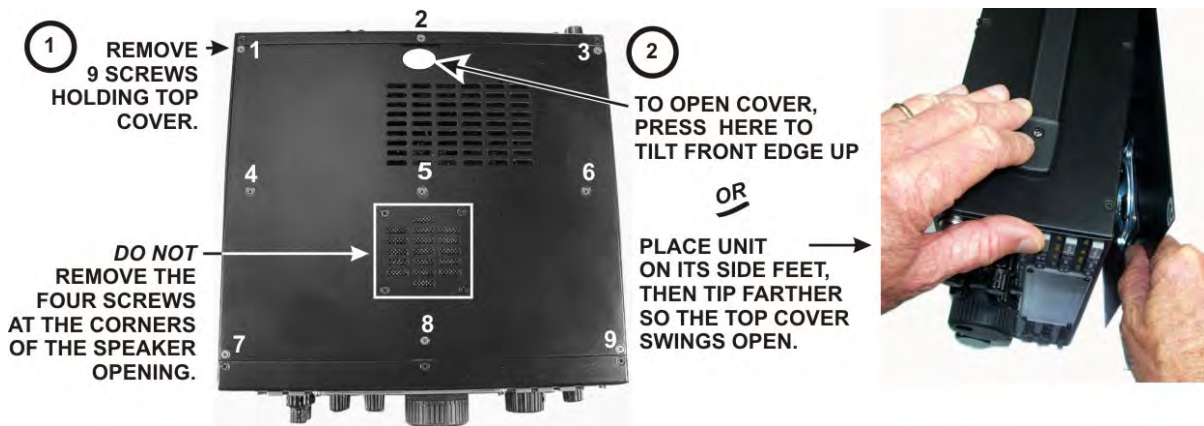

Figure 95. How to Remove the Top Cover.
□ If you have the KPA3 shield installed, place three 4-40 3/16" (4.8 mm) black flat head screws (SS) through the holes across the middle of the cover to secure it to the stiffening bar. If you have not installed the KPA3 shield, the stiffening bar is still attached to the top cover where you mounted it to measure the speaker grill cloth for trimming. Place a 4-40 3/16" (4.8 mm) black flat head screw (SS) into each side panel to secure the ends of the stiffening bar.
*When removing the top cover in the future, the normal procedure is to remove the nine screws on top, leaving the stiffening bar on the chassis (see Figure 95). If the KPA3 100-watt amplifier is installed, this is the only way the top cover can be removed because the rear shield installed with the KPA3 attaches to the stiffening bar.*